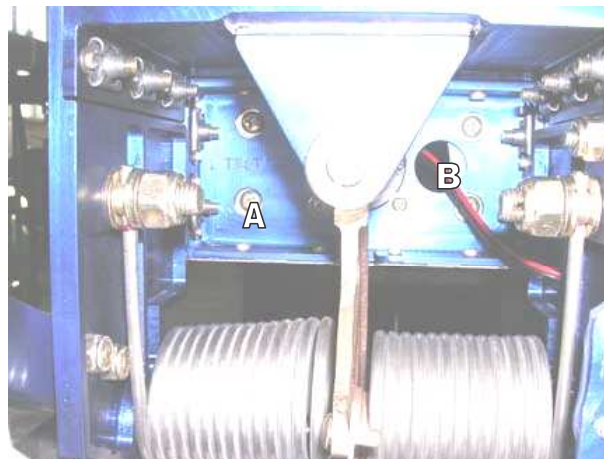

Figure 1.7: Camera Boom attachment and wiring
- (1) Thread the camera cabling through the access hole on the Motor Plate before trying to install the boom (Figure 1.7, B)
- (2) Attach the boom with the four MS35206-246 screws and AN960-L washers (Figure 1.7, A). Make sure the airfoil faces forward, with the round end toward the front of the helicopter.